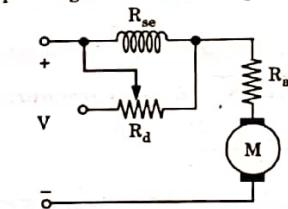

Fig. 3.7.2. Diverter in parallel with the series of DC motor.
- a. A variable resistance  $R_d$  is connected in parallel with the series field windings as shown in Fig. 3.7.2. The parallel resistor is called the diverter. A portion of the main current is diverted through  $R_d$ . Thus, the diverter reduces the current flowing through the field winding. This reduces the flux and increases the speed.